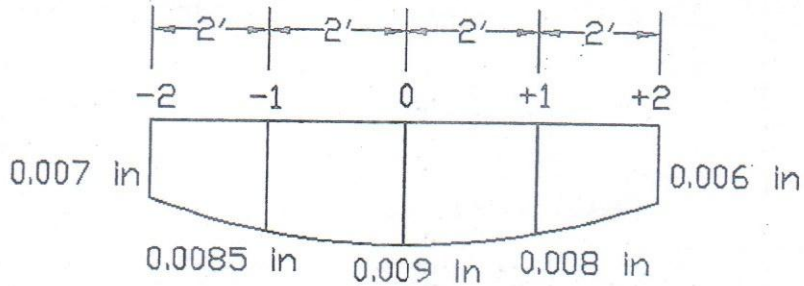

Fig. 2
- (b) What do you understand by "Specifications" in Python programming? Why specifications should be used in programming? (5)
7. (a) Experimentally observed value of deflection of a beam are shown in Fig. 2. (12)